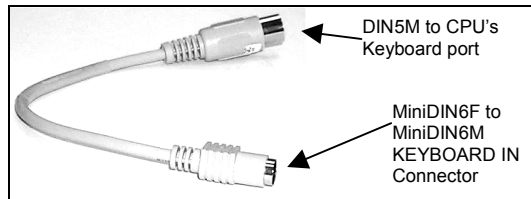

Figure 5-15 The Keyboard In adapter cable
- Keyboard In adapter cable. See Figure 5-15.
- Keyboard In adapter cable. See Figure 5-15 above.